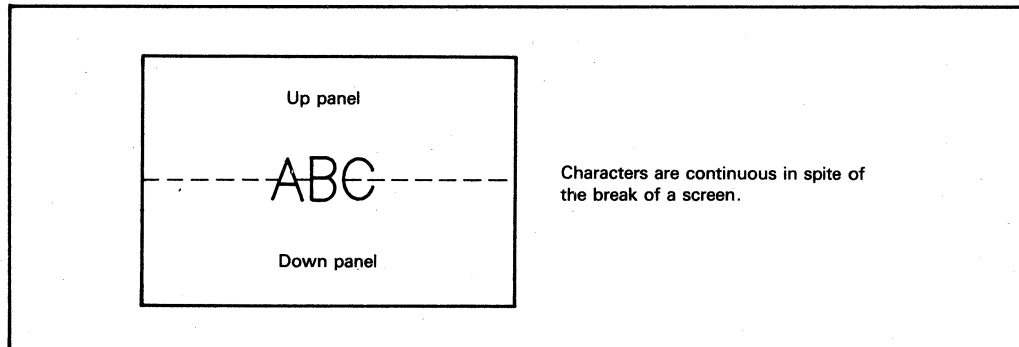

Figure 19 Example of the Display in the Character Mode
When the LCTC mode is set for character display and dual screen, memory addresses (MA) and raster addresses (RA) are output in such a way as to keep continuity of a display spread over the two panels. Therefore users can use the LCTC without considering the multiplexing duty ratio (the number of vertical dots of a screen) or the character font. (See figure 19.)